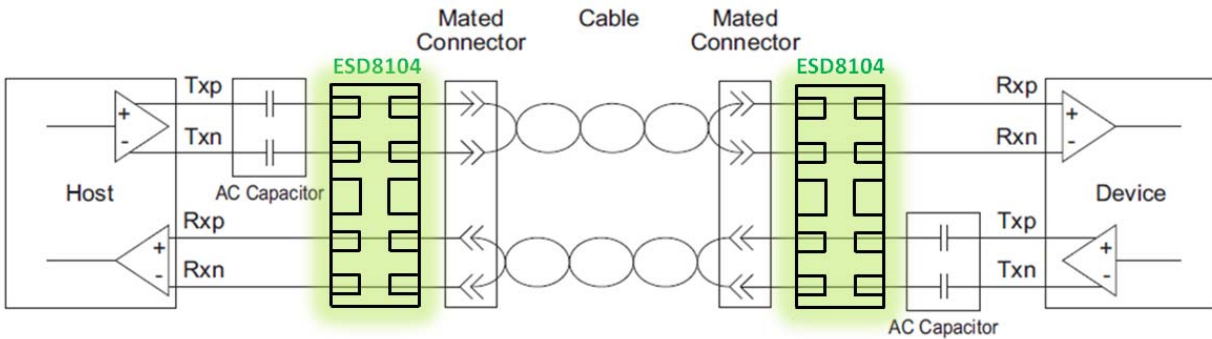

Figure 16. USB 3.0/3.1 Connection Diagram
- ♦ In USB 3.0/3.1 applications, the ESD protection device should be placed between the AC coupling capacitors and the I/O connector on the TX differential lanes as shown in Figure 16.